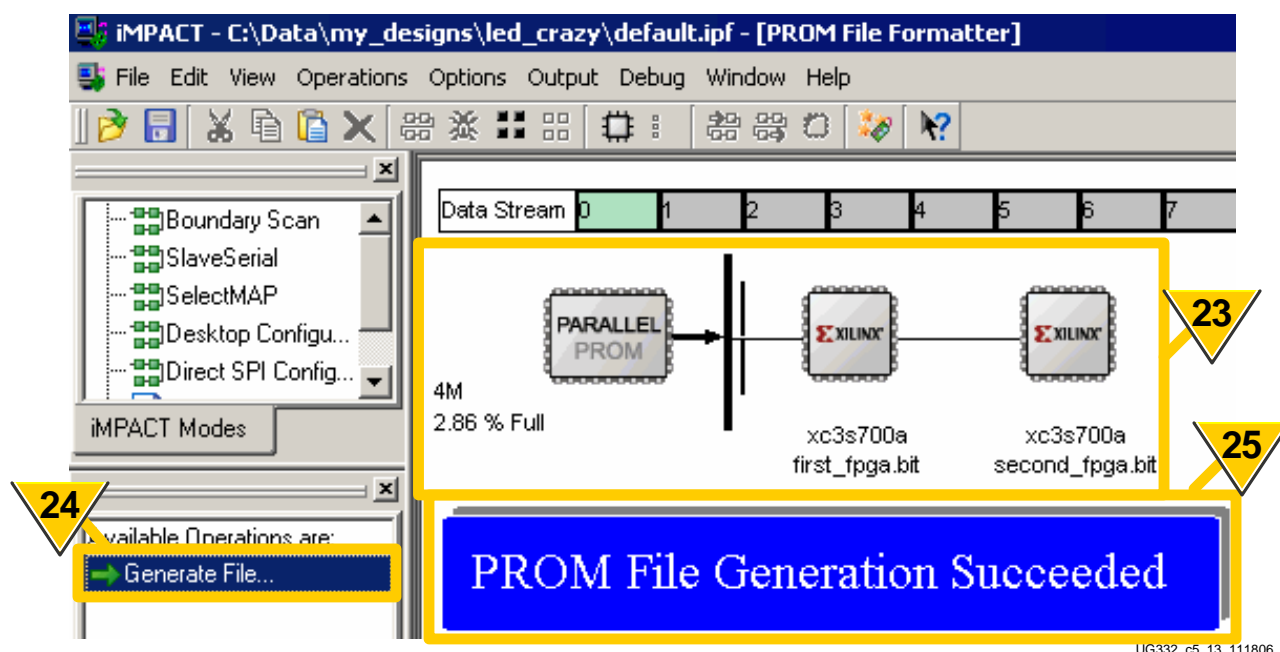

Figure 5-12: Generate Parallel PROM File
23. As shown in Figure 5-12, the iMPACT software graphically displays the selected configuration topography. In this example, a single parallel PROM provides the bitstreams to two XC3S700A FPGAs using a serial daisy-chain configuration.